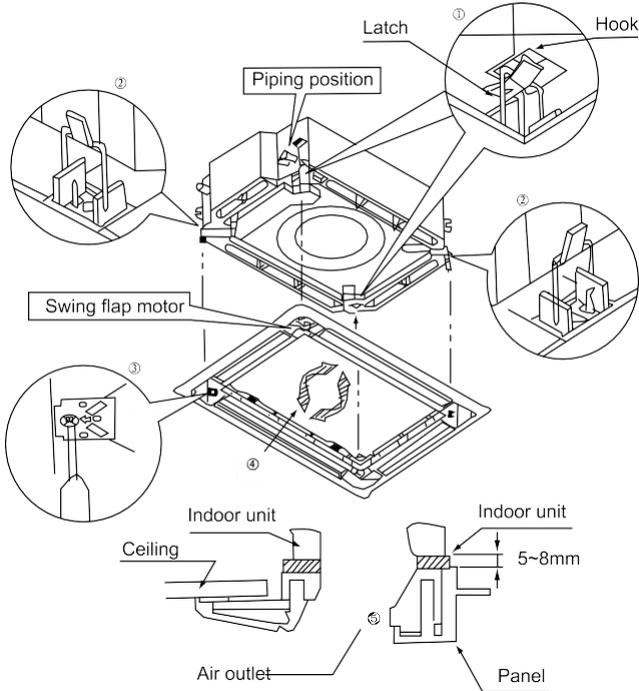

Fig.35
- (1). Place the panel at the unit, and latch the hooks beside and opposite the swing flap motor.
- (2) Latch other two hooks.
- (3) Tighten four hexagonal screws under the latches about 0.6in.
- (4) Adjust the panel along the direction indicated by the arrow as shown in Fig. 35.
- (5). Tighten the screws until the thickness of the sealing material between the panel and the indoor unit reduces to .19-.31in.